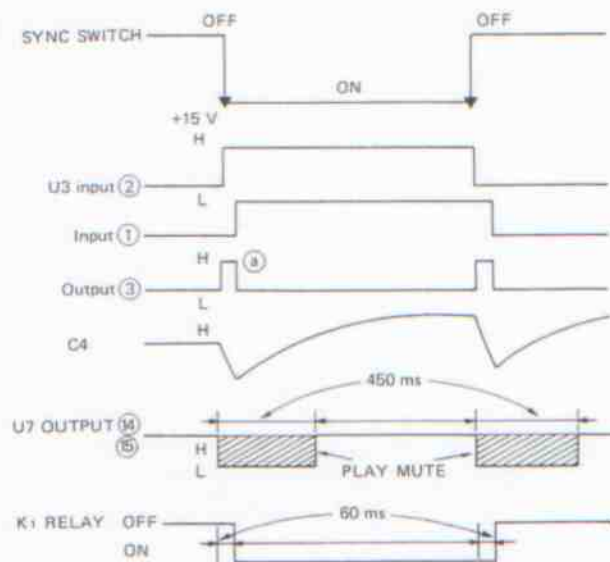

Fig. 5-17. Play Mute
a) When the SYNC switch is operated, levels at each input pin of the EX-OR gate U3 (1, 2, 3) become as shown in Fig. 5-17. Pulse (a) appears at output pin 3 of U3 (1, 2, 3) for a period equal to the time constant of C3-R14. This pulse causes C4 installed ahead of pin 5 of U3 (4, 5, 6) to store and release the charge through R48 as the SYNC switches on and off.